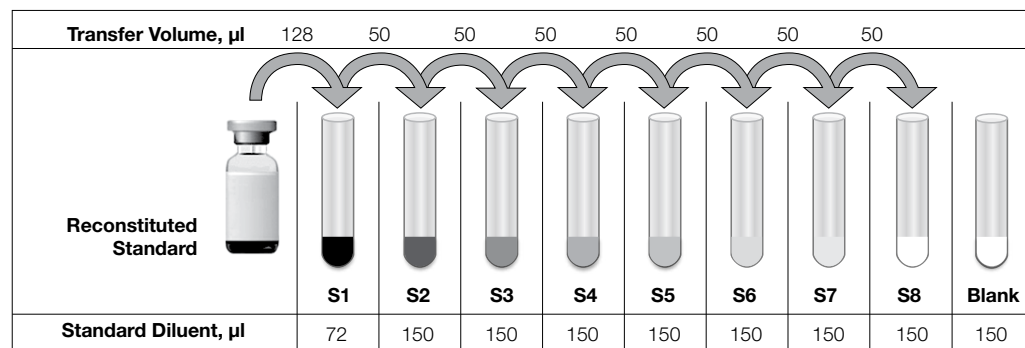

Fig. 4. Preparing a fourfold dilution series of mouse groups I, II, and III (Th17) and rat cytokine standards.
- Add the specified volume of standard diluent to each tube (Figure 4).
- Continue with 1:4 (fourfold) serial dilutions from tube S2 to S8 as shown in Figure 4. Use reconstituted and diluted standards immediately. Do not freeze for future use.
Two mixing scenarios are provided in Figures 4 and 5 for detection at high and low PMT respectively. One results in a narrow range cytokine standard curve for detection at high RP1 (PMT); the other gives a broad range cytokine standard curve for detection at low RP1 (PMT).